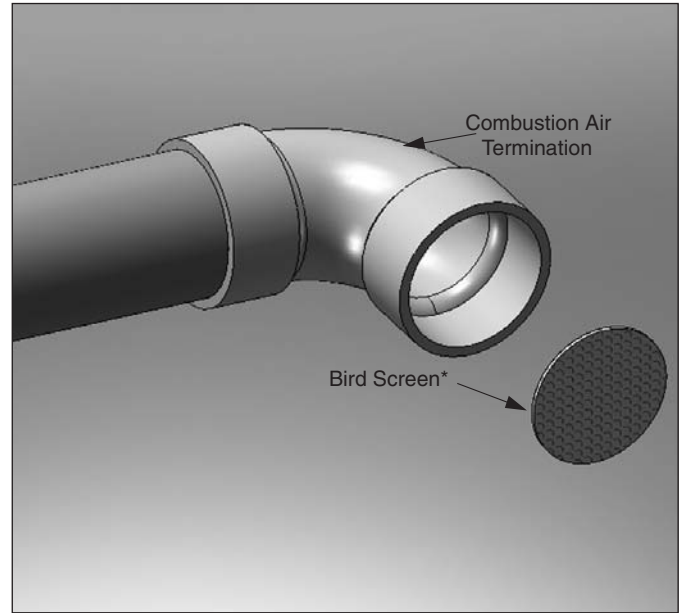

Fig. 19: Horizontal Combustion Air Bird Screen Installation with 90° Elbow Termination
1. The vent and combustion air terminations must include a factory supplied “bird screen” installed as shown in Fig. 4 page 8 & Fig. 19 page 15.